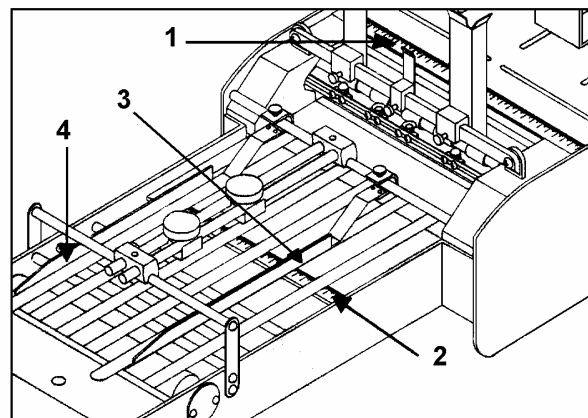

Figure 9
11. Using the scale on the feeder floor and the scale on the conveyor, [#1, Fig. 9], and the scale on the conveyor, [#2, Fig. 9], roughly adjust the stop guide, [#4, Fig. 9] and the push guide, [#3, Fig. 9] so that the envelope coming down will clear them.